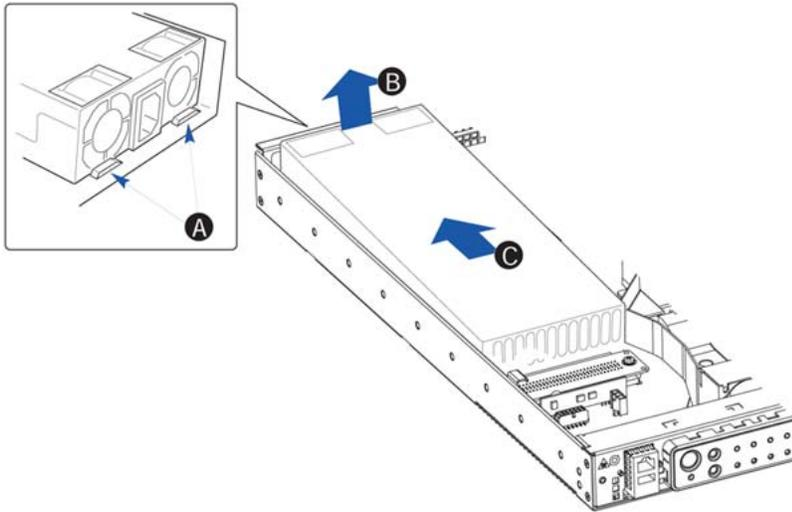

Figure 17: Removing the power supply
4. Lift up the rear of the power supply until it clears the two half-circle stops at the rear of the power supply. See letters A and B in Figure 17: Removing the power supply on page 78.
5. While holding the rear of the power supply above the stops, push back at the front of the power supply to disconnect it from the power board. See (C) in Figure 17: Removing the power supply on page 78.
9. Lower the power supply into place. Ensure that the cables are not pinched under the power supply. For more details, see Figure 17: Removing the power supply on page 78.